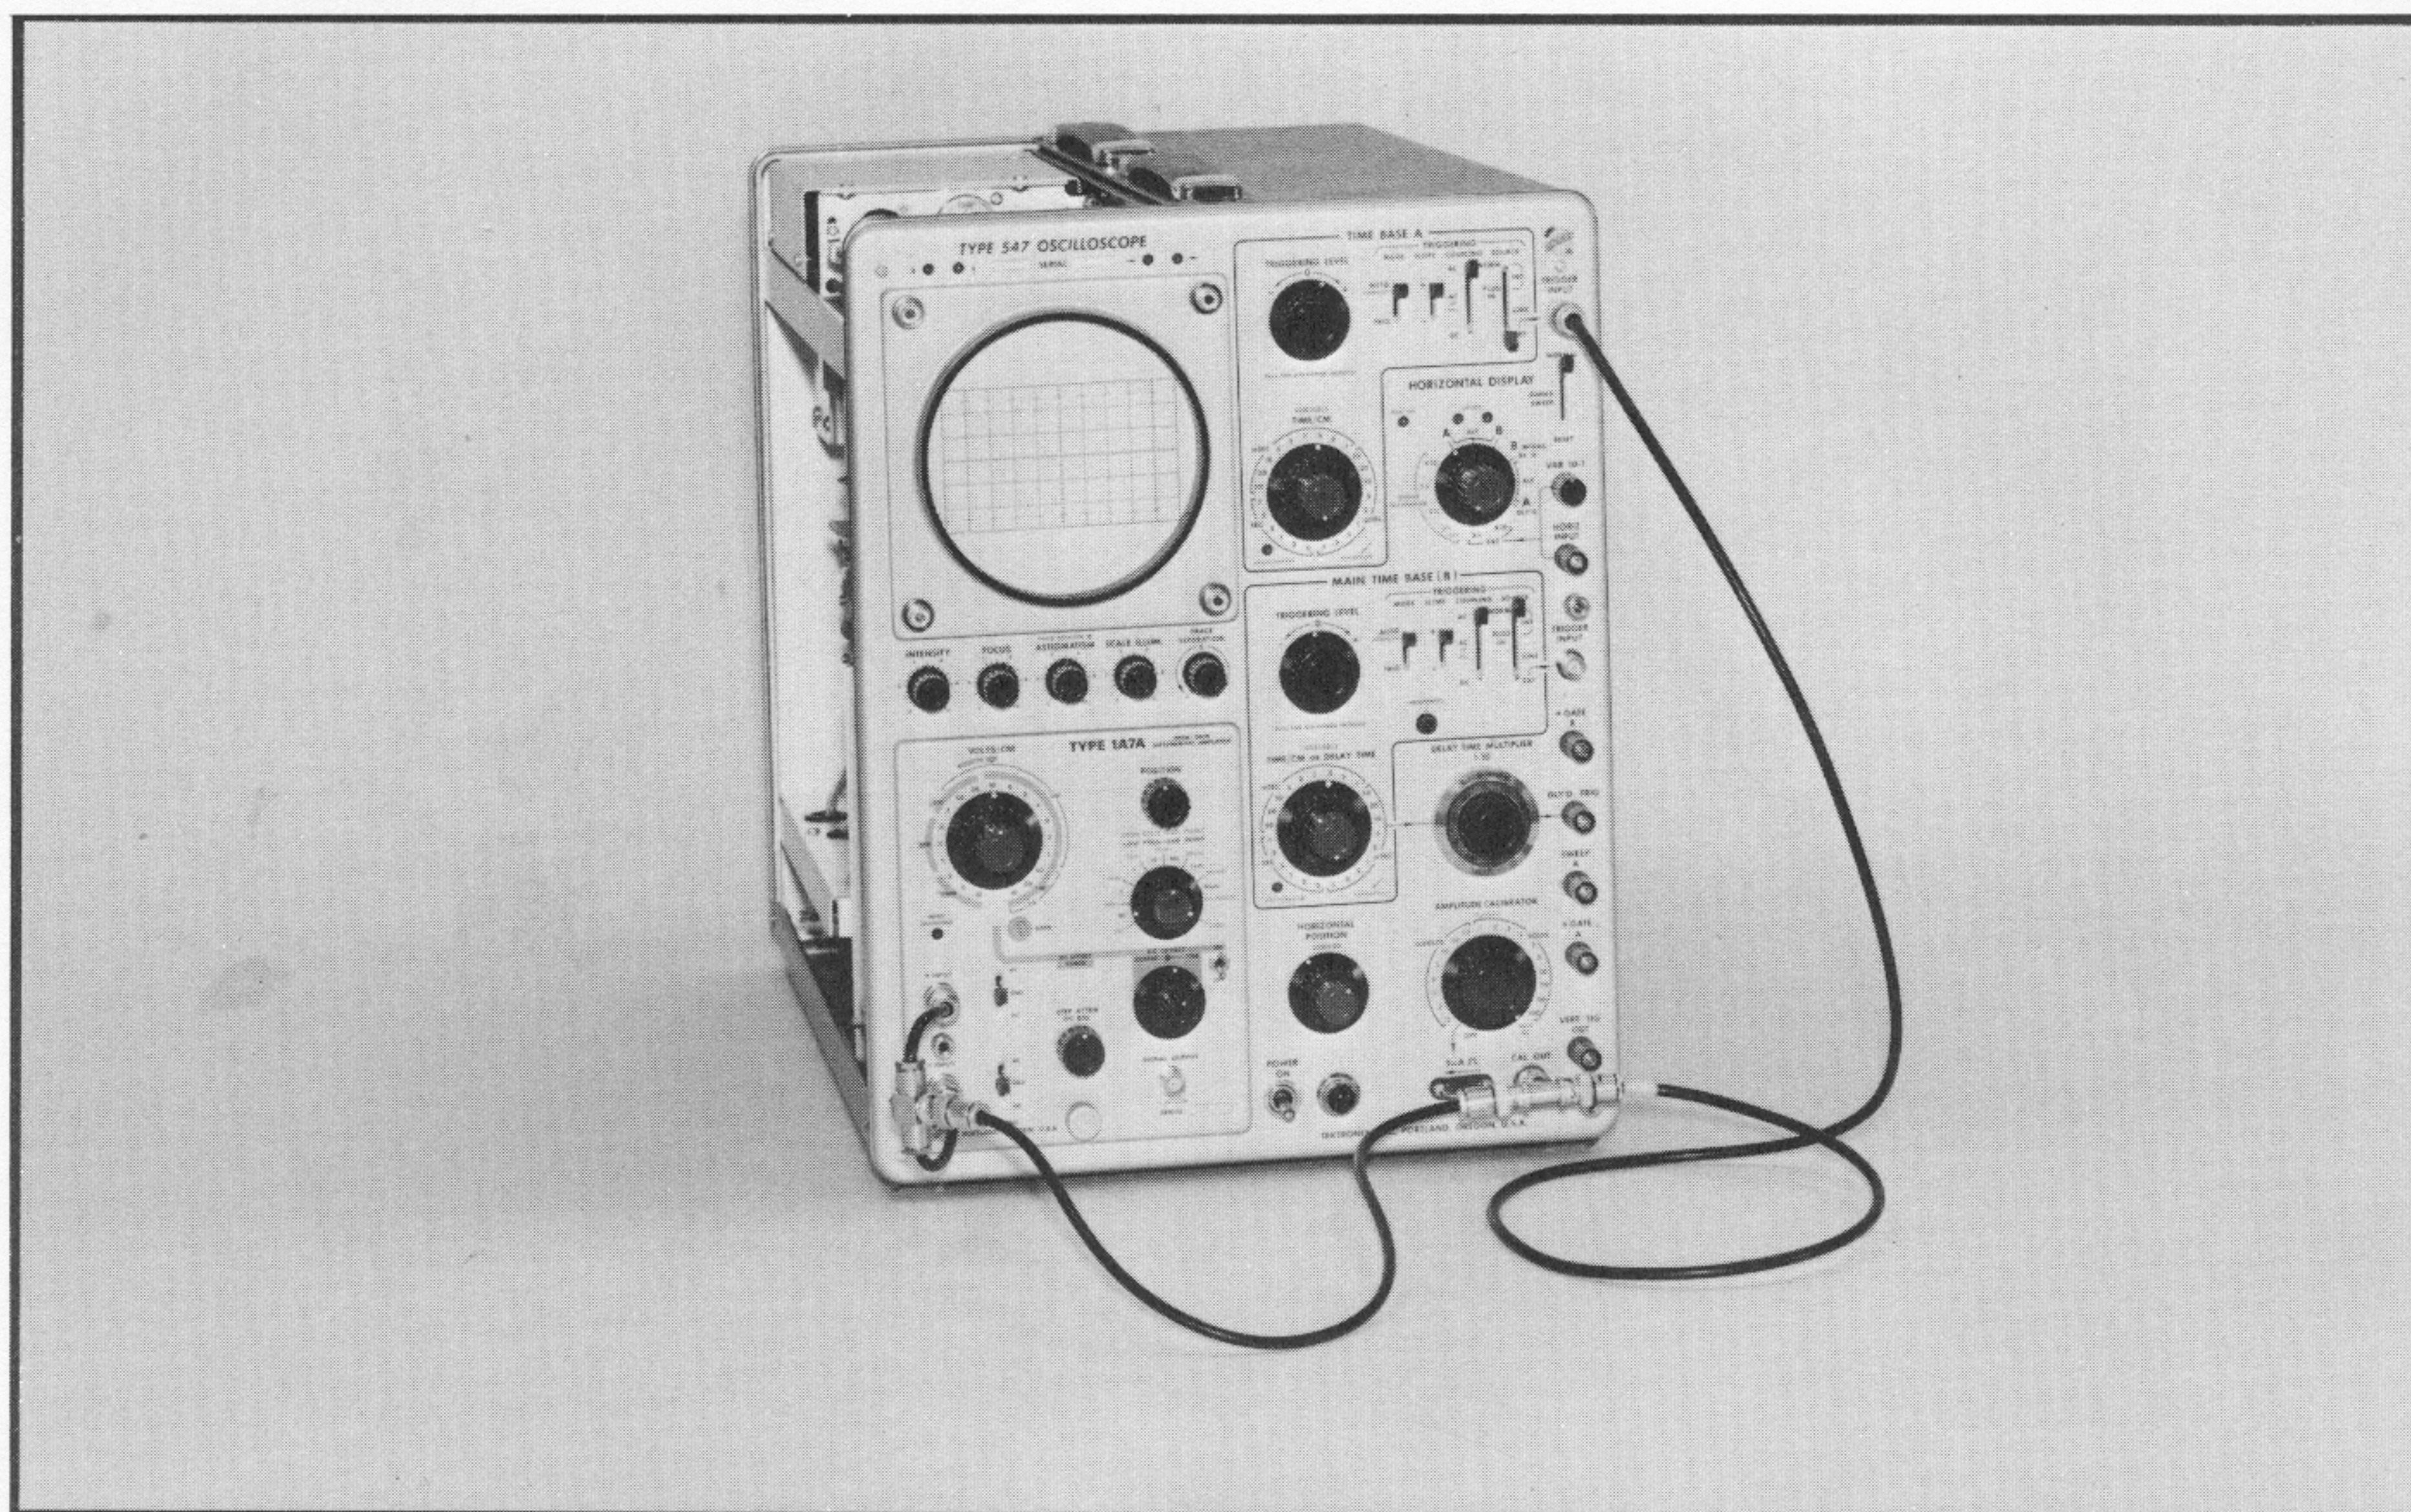

Fig. 5-16. Test equipment setup for step 15.
- a. Test equipment setup is shown in Fig. 5-16.